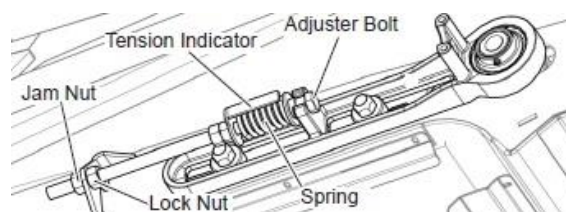

Figure 85
2. Locate the two tensioners on each side of the center draper on the underside of the header. Figure 85